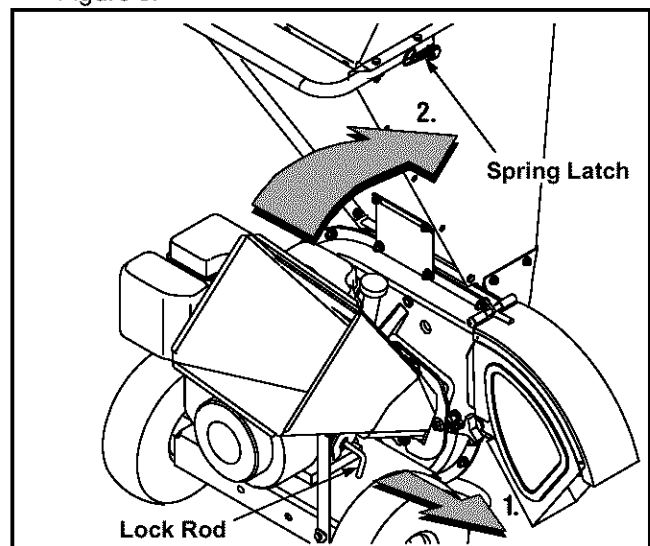

Figure 3
- Pull the lock rod outward and pivot the chipper chute upward until it clicks into the spring latch. See Figure 3.